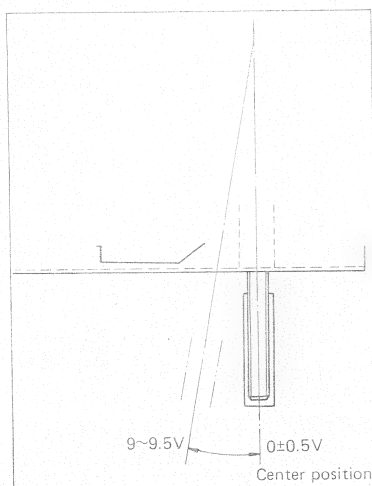

Fig. 19
- (2) Adjust VR 201 so that voltage reads 9.0 to 9.5V when tonearm is swung to left side by hand (See Fig. 19), and then adjust eccentric pin (B) so that voltage reads  $-0.5$  to  $+0.5$ V when tonearm locates at the center (See Fig. 19, 20).